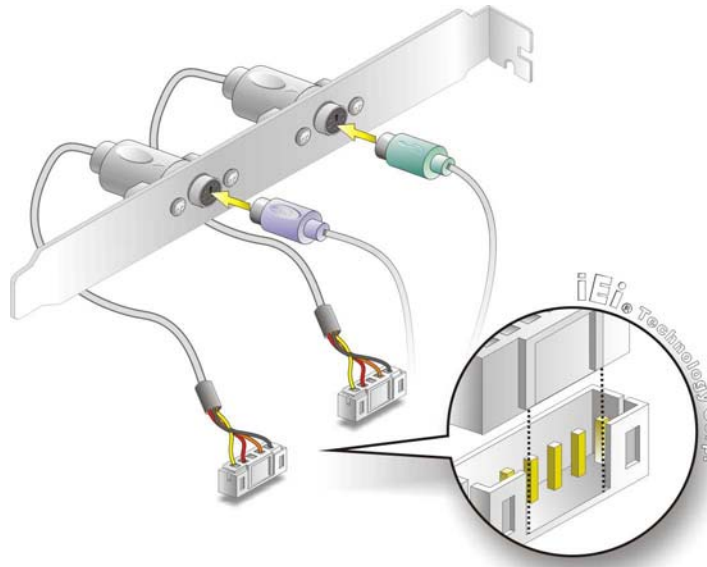

Figure 5-8: Keyboard and Mouse PS/2 Cable with Bracket
connector with pin 1 on the SPCIE keyboard (mouse) connector. See Figure 5-8.
- Step 3:** Insert the cable connectors. Once the keyboard (mouse) cable connector is properly aligned with the keyboard (mouse) connector on the SPCIE-3600AM2, connect the cable connector to the on-board connector. See Figure 5-8.
- Step 5:** Connect the keyboard and mouse. Once the PS/2 connectors are connected to the chassis, a keyboard and mouse can each be connected to one of the PS/2 connectors. See Figure 5-8. The keyboard PS/2 connector and mouse PS/2 connector are both marked. Please make sure the keyboard and mouse are connected to the correct PS/2 connector.